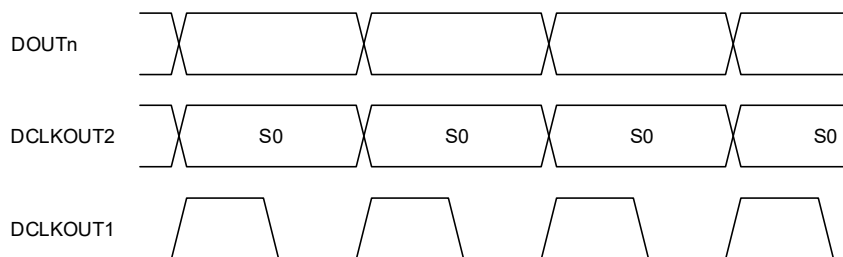

Figure 4-35. CMOS (TG) Output Format
The CMOS (TG) format is illustrated in Fig. 4-35. See Table 3-17 for timing specifications.